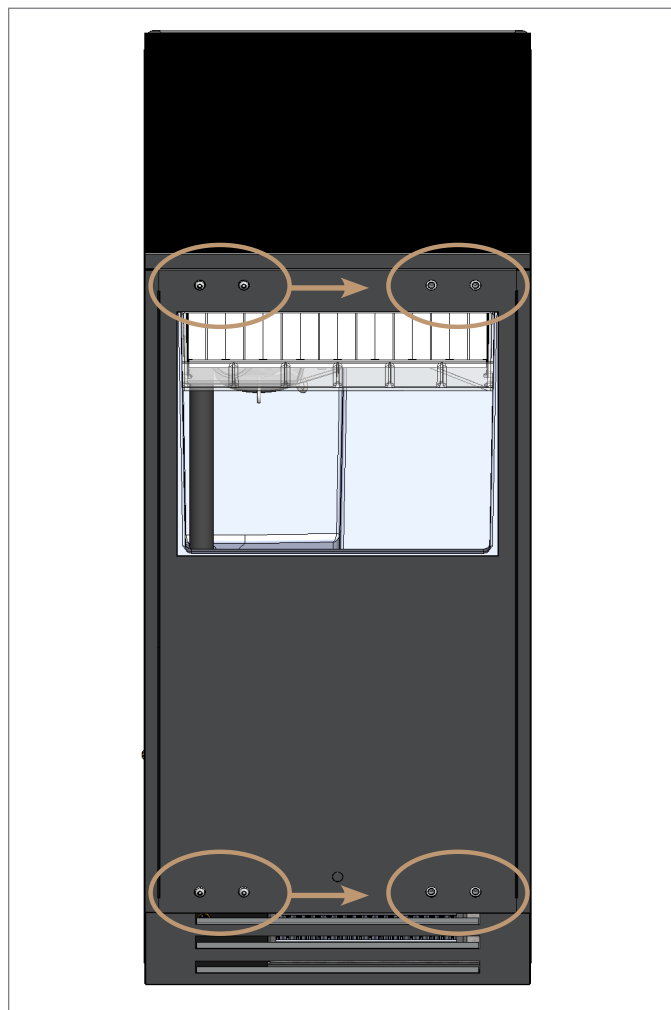

FIG. 8. Move the remaining door hardware to the opposite side.
9. Move the remaining door hardware to the opposite sides. See fig. 8.